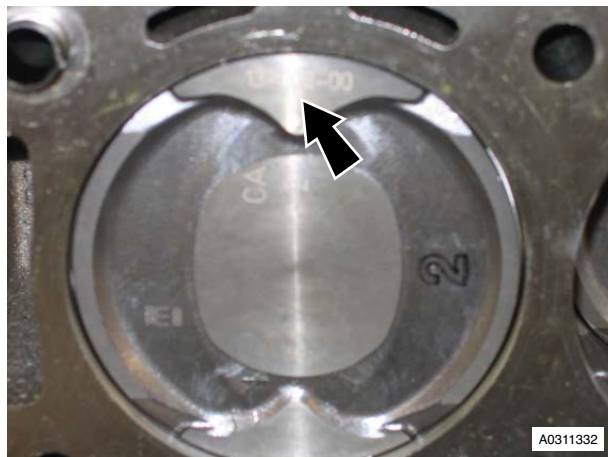

Figure 17
34. Note that piston grade number on crown and thick flange on connecting rod faces to front of engine on Left Hand bank (B) (see Figure 17).